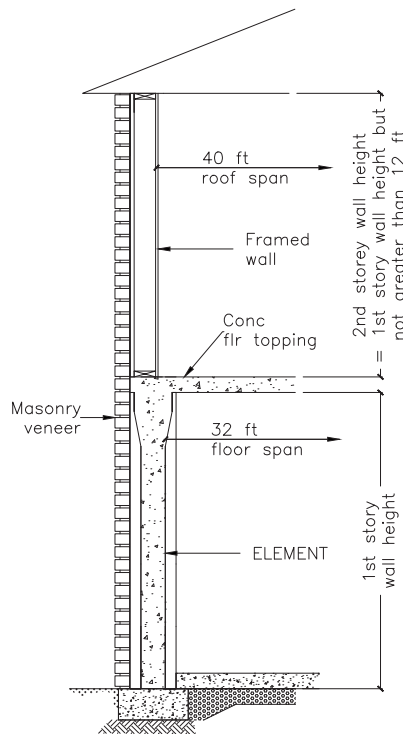

Fig 3B
- One storey Element supporting 2nd storey wood frame plus wood roof frame (Fig. 3B)